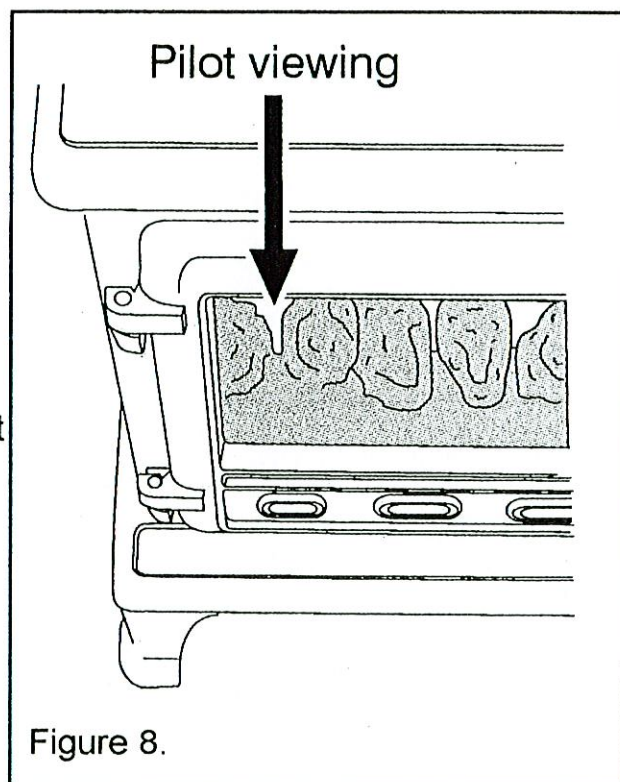

Figure 8.
3. Turn the control knob clockwise to the 'Off' position. Repeat this operation until a flame appears at the pilot. The pilot can be seen by looking through the space in the left hand front of the fuel effect (See figure 8). There may be a delay before the pilot lights due to air being purged from the system. When a flame appears at the pilot keep the control knob depressed and hold the pilot ignition position for five seconds. When the control knob is released the pilot flame should remain lit.